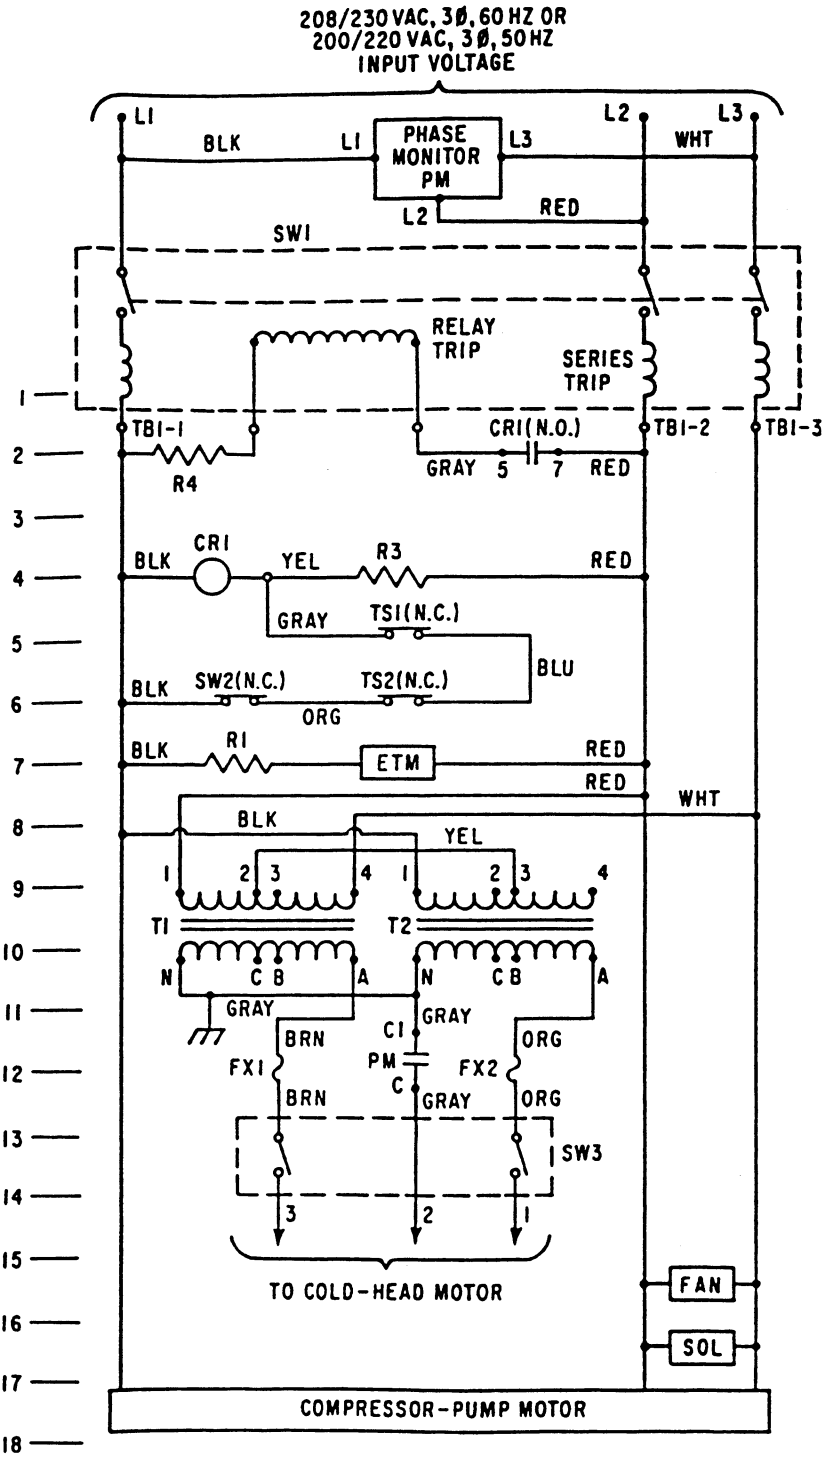

Figure B.1 Electrical schematic for the Model 1020R compressor P/N 8031023G001 or P/N 8031023G002
6. Failure of the oil-injection solenoid valve to the compressor pump.	6. Turn the compressor OFF. Electrically disconnect the solenoid coil from the rest of the circuit (see Figures B.1 and B.2) and check the coil for continuity. If continuity does not exist, the coil must be replaced. Contact the Product Service Department for assistance.
Electrical schematics (Figures B.1 and B.2) and illustrations showing the physical location of electrical control-chassis components (Figures B.3 and B.4) are provided in case an electrical problem beyond the scope of this manual should occur.
Figure B.1 is the electrical schematic for Model 1020R Compressors that use 208-volt or 230-volt, 60 Hz input power or use 200-volt or 220-volt, 50 Hz input power. Figure B.2 is the corresponding schematic when 440-volt, 60 Hz or 380-volt, 50 Hz input power is used.
LEGEND FOR FIGURE B.1